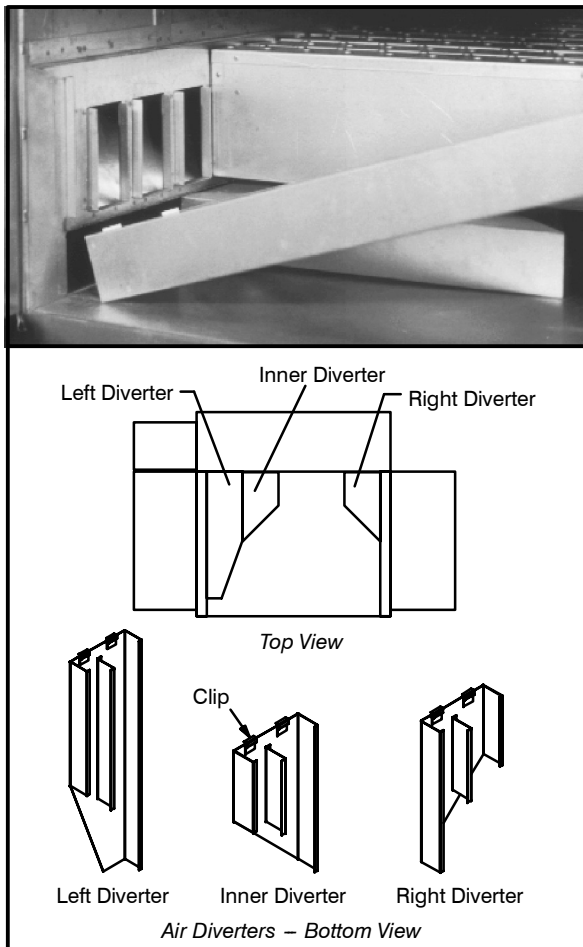

Figure 4
2. Lower the front end and slide the diverter into place. The diverters must be installed in the correct order. See Figure 4.